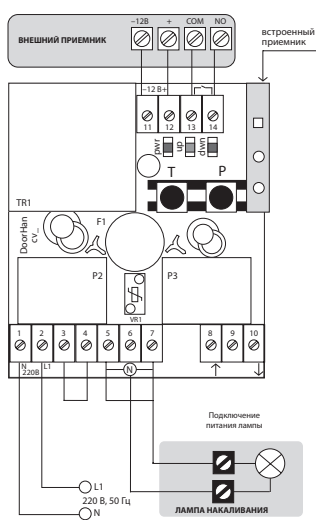

Fig. 1 Example of lighting and external radio control connection diagram (to DoorHan CV01)
3. Connect wiring according to the diagram (Fig. 1 and 2).
When installing the device, protect it from dust and moisture. When connecting equipment wires, if possible, use mounting holes from the side of the terminal block (not on the top). Before connecting, pierce the rubber plugs using an awl or a thin screwdriver (Fig. 1) so that the diaphragm fits tightly the inserted wires.
Contact function (Fig. 1 and 2)